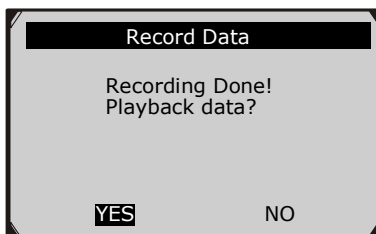

Figure 5.27
- 8) The scan tool keep recording PID data until user presses **ESC** button, the selected memory location is full, or it completes recording. A message prompting to playback data shows on the screen. (Figure 5.27)